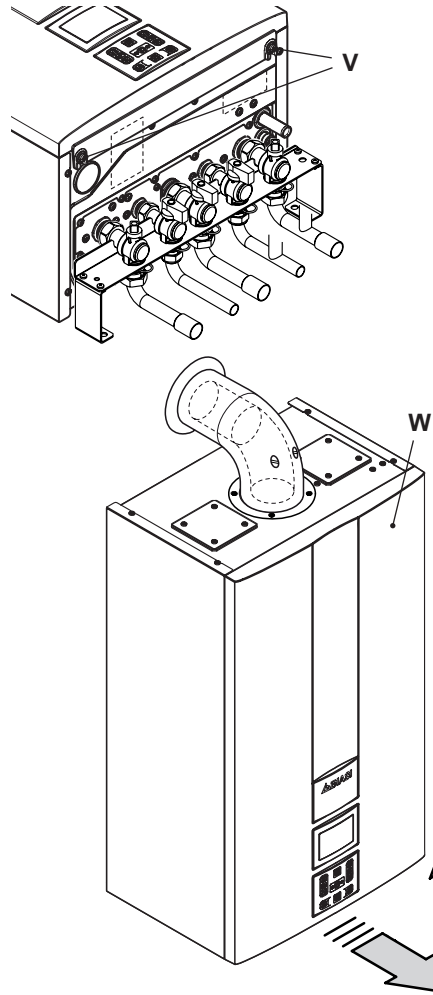

Fig. 6.13
- Unscrew screws "V" and remove the front panel "W" by pulling it and pushing it towards the top so that it is freed from the top housing Fig. 6.13.